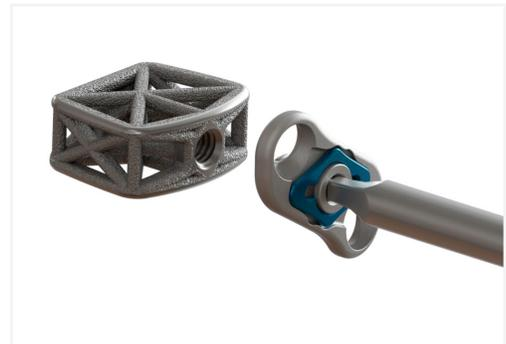

Figure 5
- ▲ To assemble the Integrated Plate and CSTS Interbody, spin the Integrated Plate a half turn into the threads of the Interbody. Ensure the prongs of the Integrated Plate are aligned with the cutouts in the CSTS Interbody. Using the Plate Assembly Driver and the Cervical Handle-AO, tighten the CSTS Integrated Plate to the CSTS Interbody until fully seated (Fig. 5).